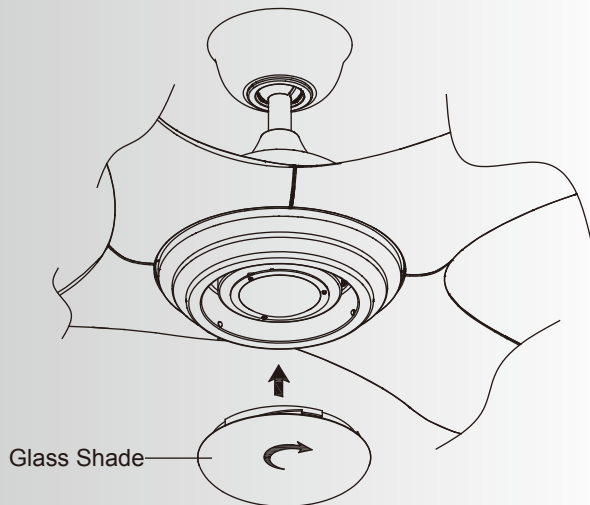

Fig. 21
Step 1. Assemble the glass shade to the switch housing by twisting in a clockwise direction. Do not overtighten. (Fig. 21)